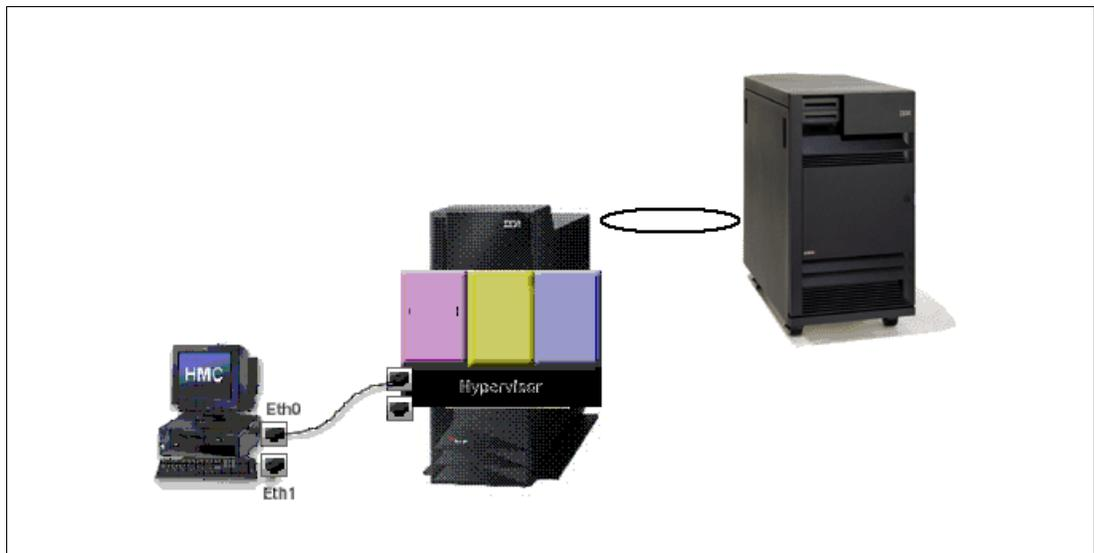

Figure 9-33 Example of HMC attached to 520 System i5 system
- The setup consists of connecting the HMC to the System i5 system. A UTP CAT 5 cable will be connected from an ethernet port on the back of the HMC to the port labeled HMC1 on the back of the System i5 system unit (a crossover cable is not necessary). See the example in Figure 9-33.